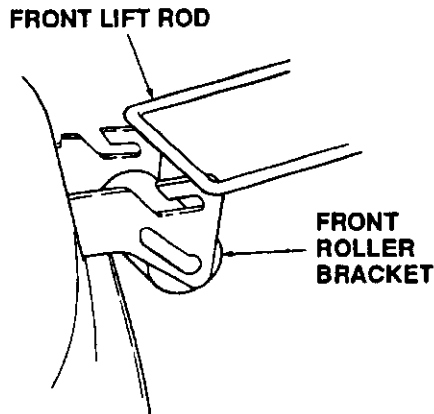

Figure 39
17. Hold front lift rod upward and slide mower deck rearward. Lower front lift rod so it rests to the front of, and free of, front roller bracket slots of the deck. (Refer to Figure 39.)